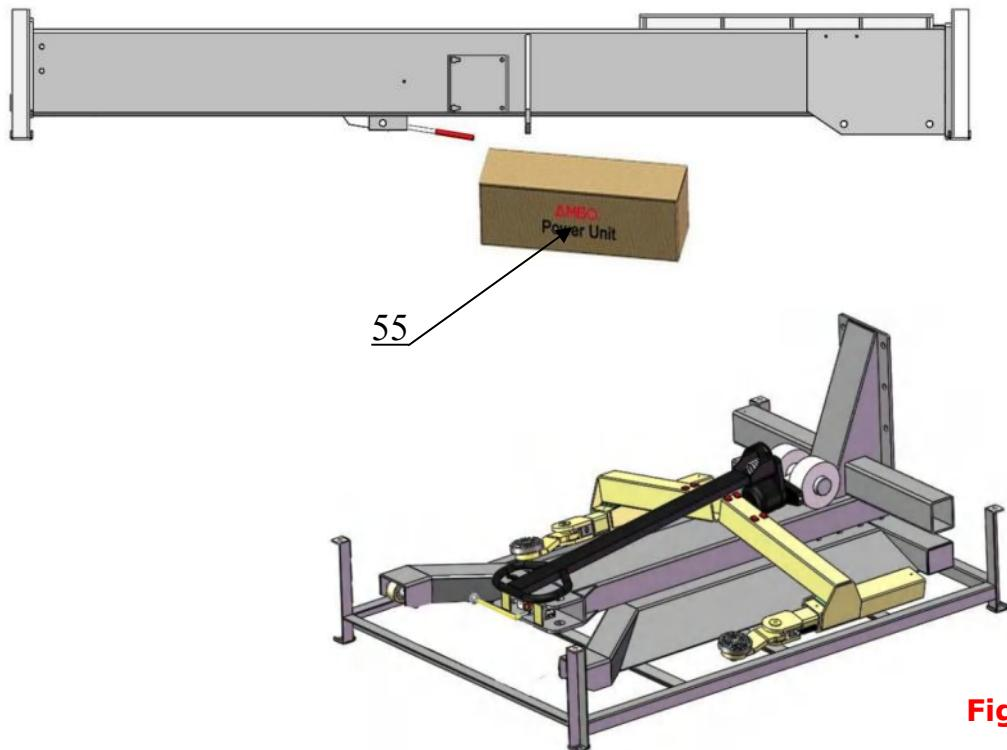

Fig.6
- Received package (lift and hydraulic power unit) (**See Fig. 6**)